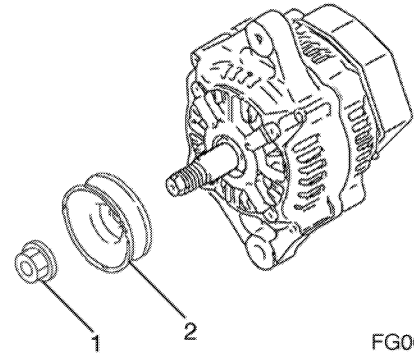

Figure 390
1. Remove the nut (1, Figure 390) from the shaft of the rotor assembly. Remove the pulley (2, Figure 390).